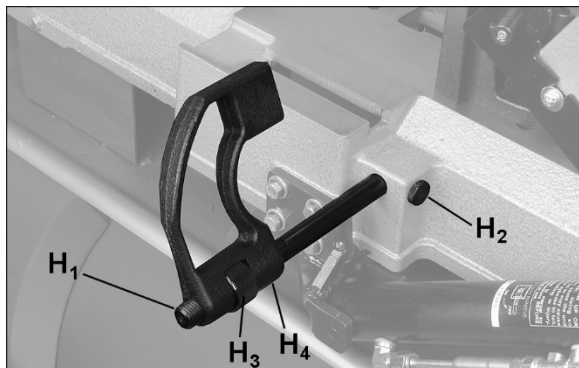

Figure 6-6: Installing Work Stop (712DV only)
5. **712DV only:** Install work stop rod (H₁, Figure 6-6) into hole and tighten knurled nut (H₂). Install work stop onto rod threads by rotating collar (H₃). Secure position of work stop by tightening set screw (H₄) onto rod flat.